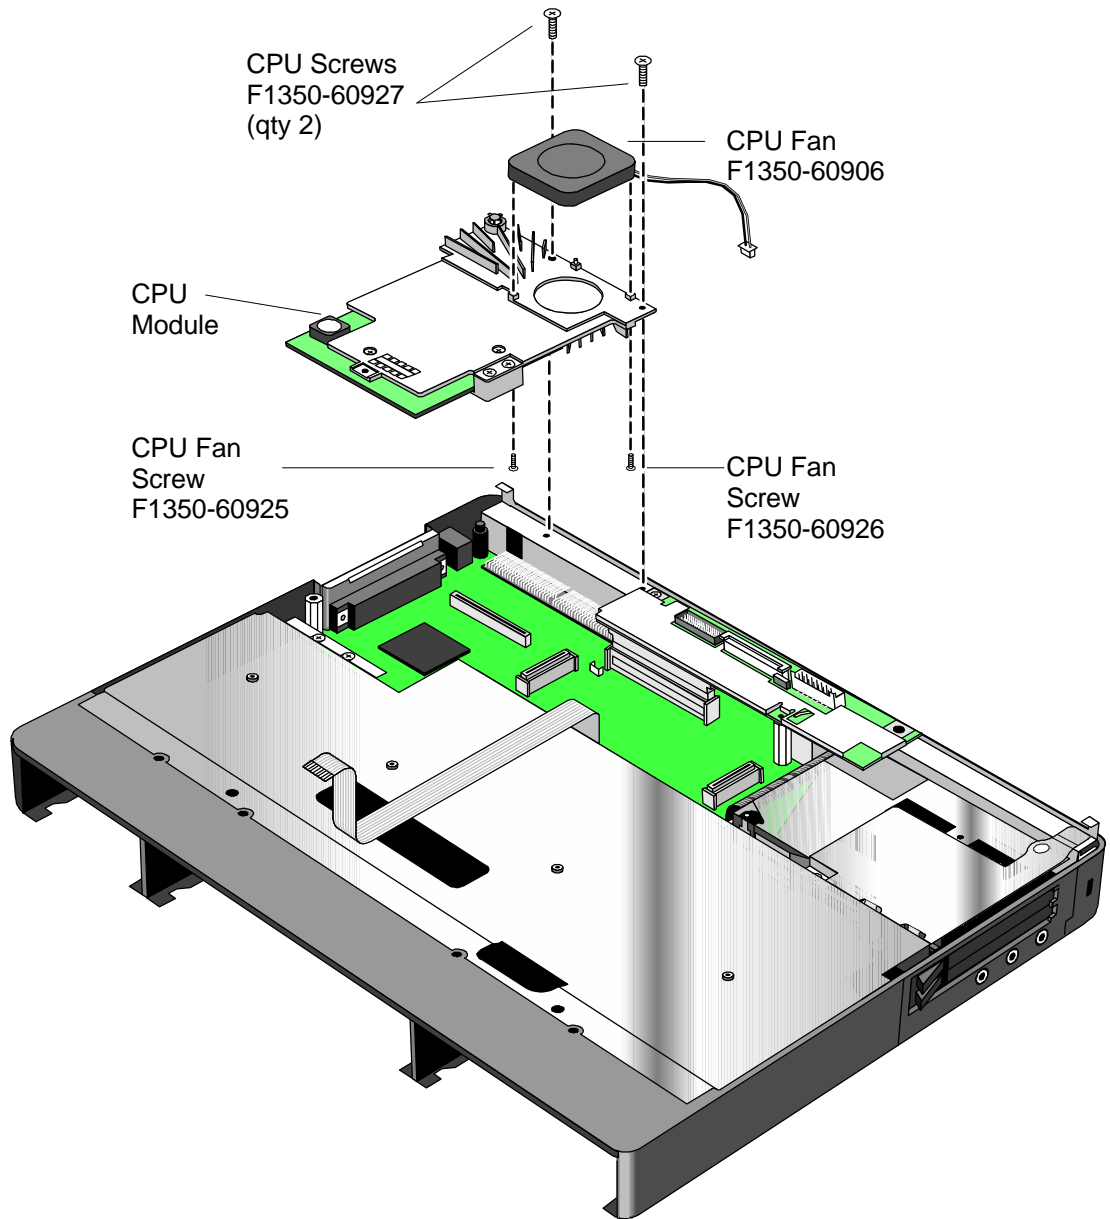

Figure 37 - CPU and CPU Fan Removal (OB2000 & OB5700 only)
- 1) Remove the two CPU Screws (see Figure 37 on page 83 for the location of the screws) and disconnect the CPU Fan Cable.
- 3) Remove the two CPU Fan Screws and the CPU Fan (see Figure 37 for the location of the screws).